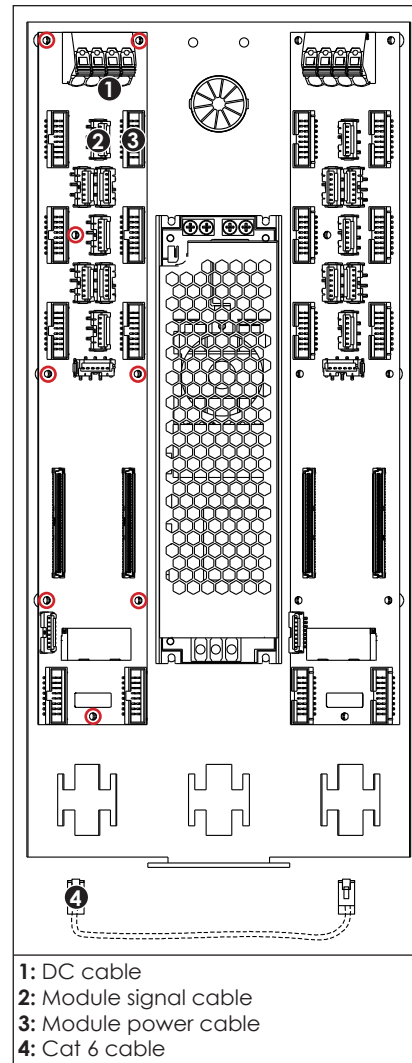
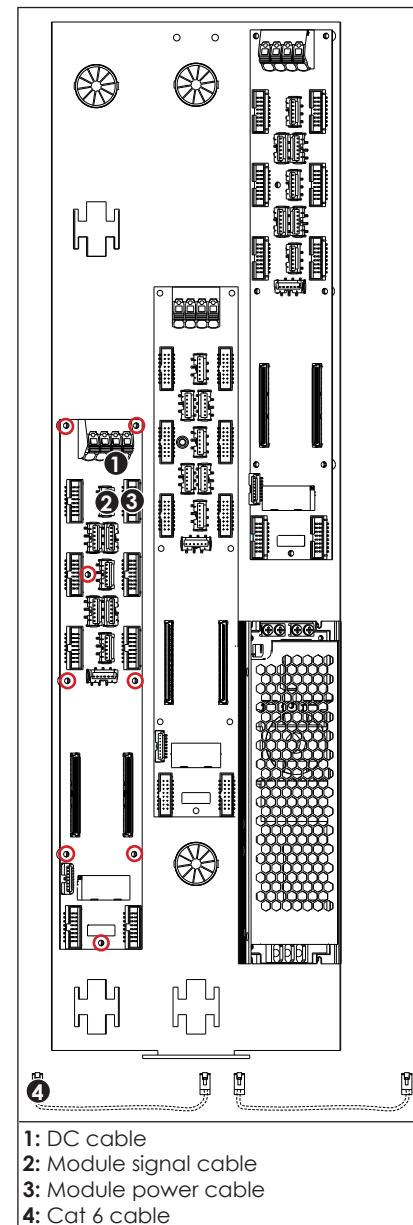

Figure 10: 2-High Component Layout
Figure 11: 3-High Component Layout
2. Disconnect the ribbon and power cables from the hub board. Take note of the locations on the hub board prior to disconnecting the cables. Refer to **Figure 10** and **Figure 11**.
3. Push in the spring-loaded terminal block to disconnect the DC power cables from the hub board. Refer to **Figure 10** and **Figure 11**.
4. Disconnect the Cat 6 cables from the RJ45 jacks. Refer to **Figure 10** and **Figure 11**.
5. Use a #2 Phillips screwdriver to remove the eight screws securing the hub board to the component plate and then remove the hub board from the plate. Refer to **Figure 10** and **Figure 11**.